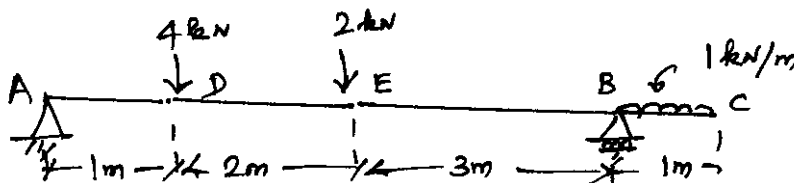

Fig 2 .
14. (a) Explain the relationship between load, shear force and Bending moment. (4)
(b) For the beam shown in figure 2 draw BMD. (8)